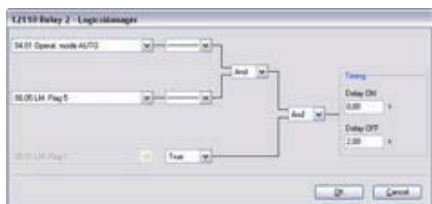

Fig. 189: LogicsManager function "Relay 2"
- Configure the LogicsManager function "Relay 2" as shown in (Fig. 189).